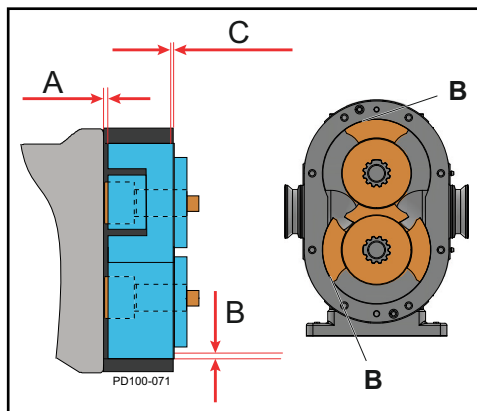

Figure 55 - Measure Clearance
9. Measure the rotor backface clearance (Figure 55, item A) through the port or from the front. The backface clearance for both rotors must be the same to prevent rotor crossover contact and must be ± 0.0005 " of the value found in Table 8, "Rotor Clearances," on page 47.
10. Check the rotor front face clearance (Figure 55, item C).
11. Check the rotor to body clearance (Figure 55, item B).